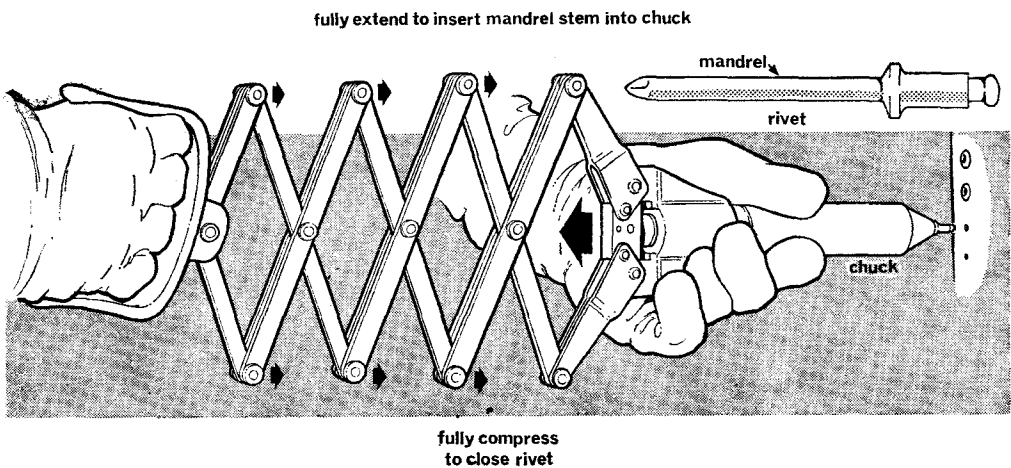

Fig. 11 Tucker pop riveting tool
22. **Tucker pop riveting.** These rivets are hollow and are supplied mounted on a mandrel (Fig. 11). A riveting tool of the 'lazy-tongs' type is provided for closing the rivet. They can be used in positions where only one end of the rivet is accessible.